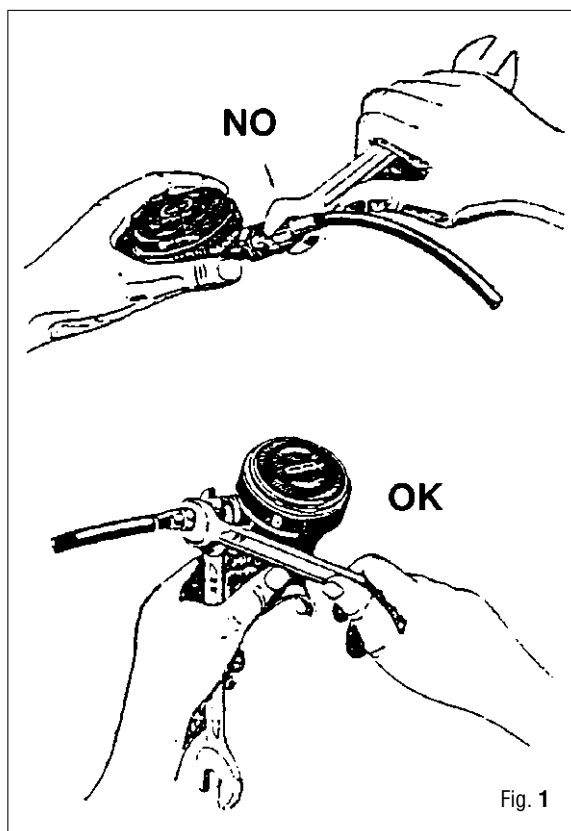

Fig. 1
1. Remove mouthpiece clamp (43) by cutting it with an appropriate tool.
2. Remove mouthpiece (44).
3. Remove exhaust tee (41) from second stage case.
4. Using two wrenches (B17 and B19) remove hose (26) from second stage (Fig. 1).
5. Pull hose connector lock (77) off hose connector (55).
6. Remove hose connector (55) from the connector case (67) using two wrenches (B19).
7. Remove seat connector (28).
8. Remove O-rings (71) from seat connector (28).
9. Depress the second stage safety catch (63) towards the exhaust tee (41) while unscrewing the purge cover bezel (60).
10. Remove the bezel (60). (only Beta Version).
11. Remove purge cover (39).